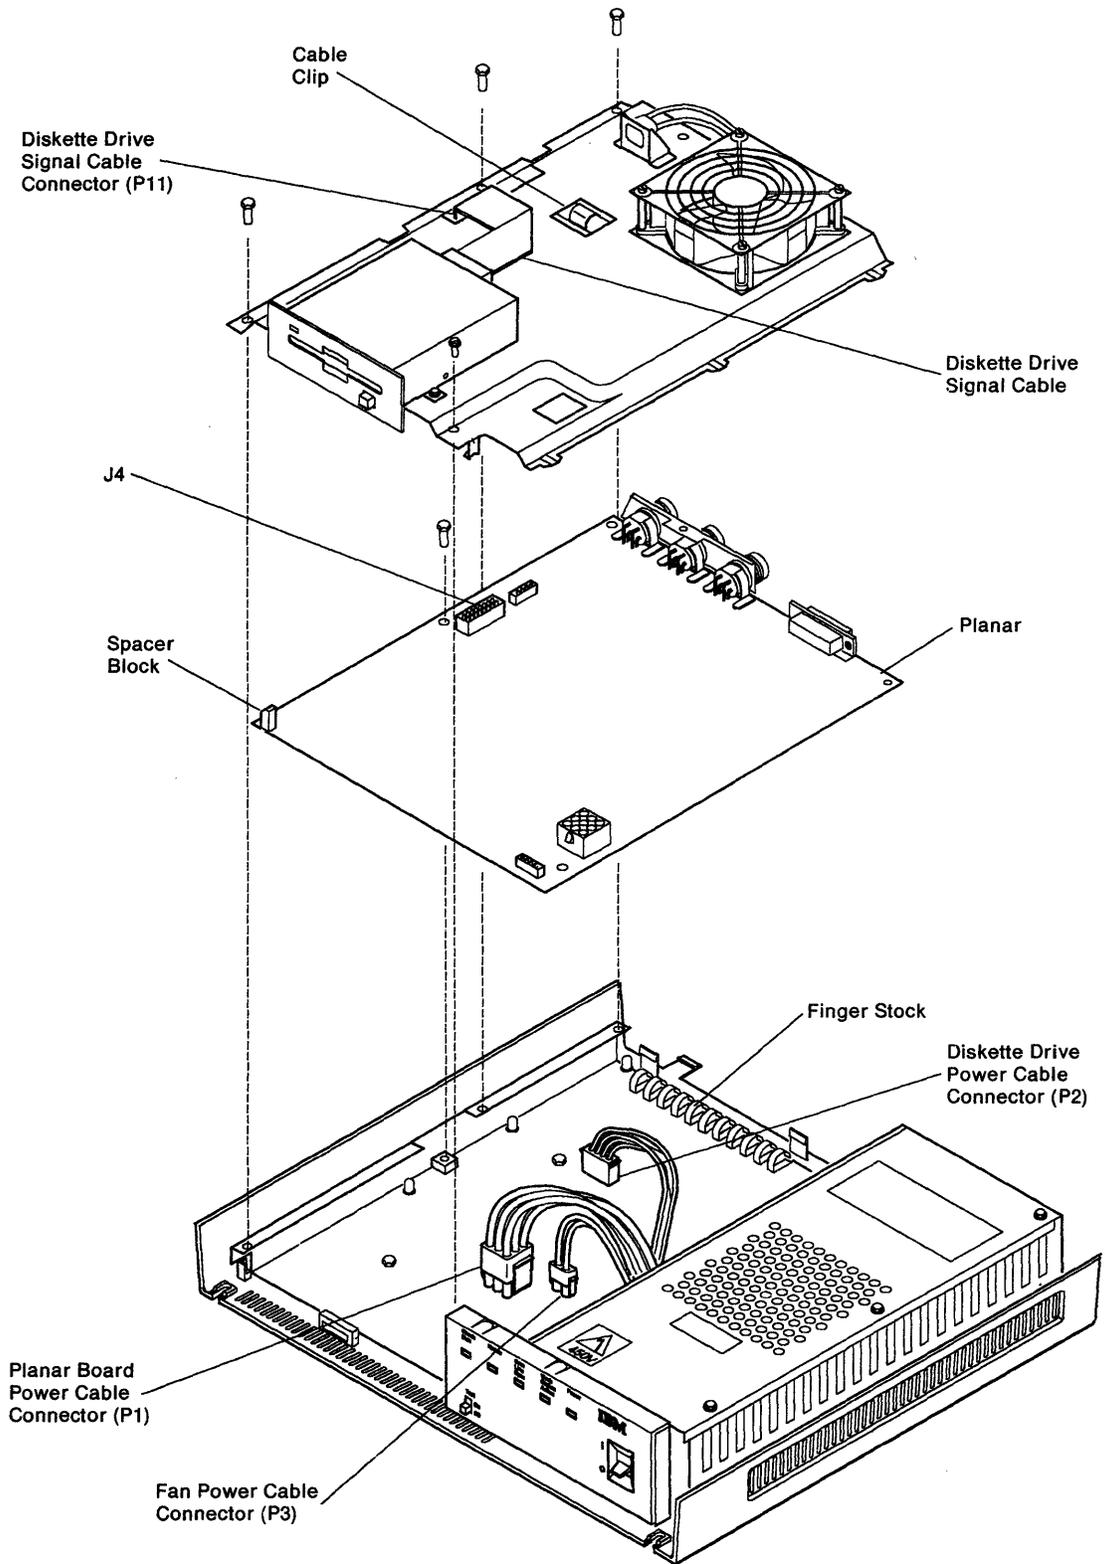

Figure 3-26. Plenum and Planar Removal and Replacement
2. See Figure 3-26 on page 3-30.
8. Examine the two pieces of finger stock located along the back edge of the chassis. See Figure 3-26 on page 3-30. If either piece is bent or damaged, replace the finger stock as follows: